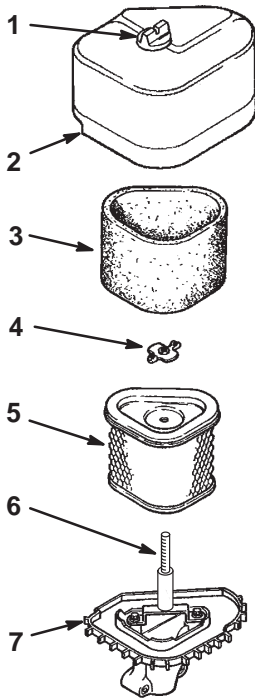

Figure 21
2. Clean around the air cleaner to prevent dirt from getting into the engine and causing damage. Unscrew the knob and remove the air cleaner cover (Fig. 21).
3. Remove the wing nut and slide the foam and paper air cleaner assembly off of the stud (Fig. 21).
4. Carefully slide the foam element off of the paper element (Fig. 21).